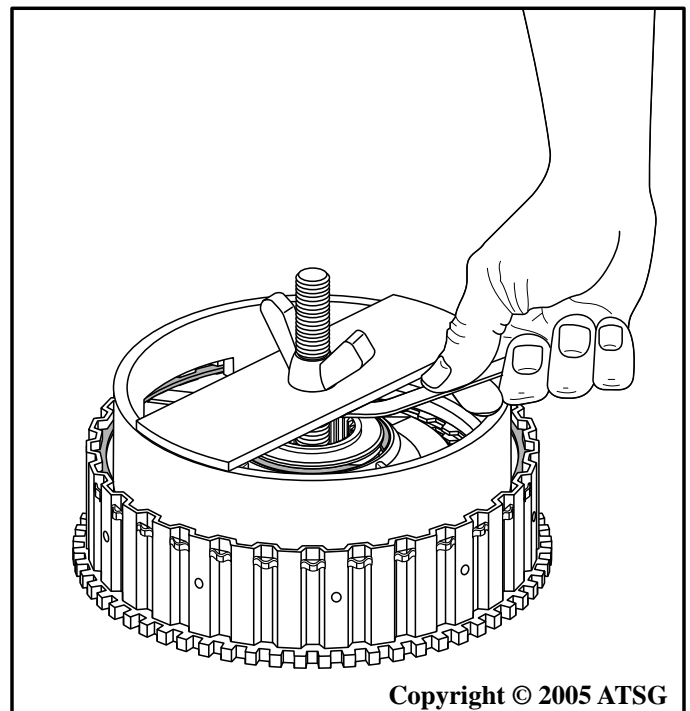

Figure 118
**Note: Underdrive lined plates are "Waved" on all models and must be compressed as shown in Figure 118 to achieve the proper clutch clearance reading. The underdrive friction plates were changed in May, 2000 to a friction with a less perceptible wave, but must still be compressed.**
16. Compress the plates and measure with feeler gage between snap ring and backing plate, as shown in Figure 118.